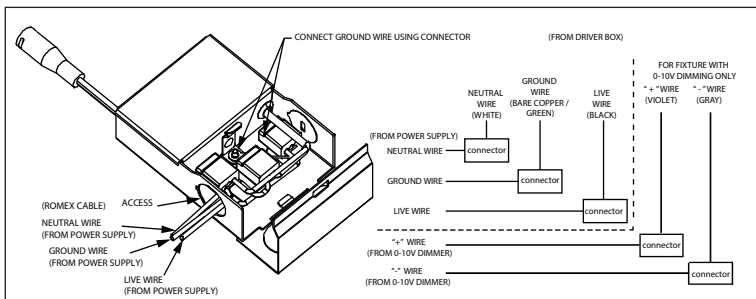

Figure 2 / Figura 2 / Schéma 2
- Connect black wire to live wire, white wire to neutral wire, and green wire with ground (as shown) and secure using wago connector. Close the cover of the box. (Figure 2).